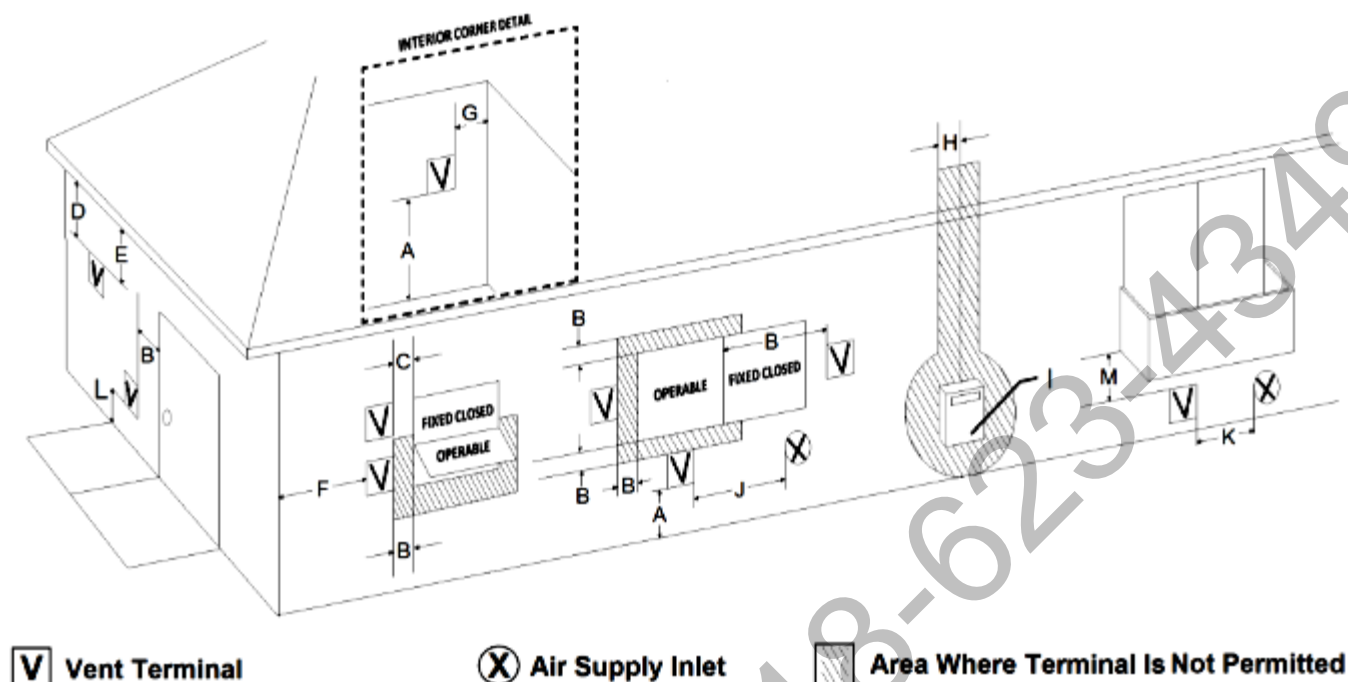

Figure 11 - Acceptable Direct Vent Terminal Vent Cap Locations
- ☛ The termination must fall within the chart in Figure 11.
- ☛ The termination must fall within the area shown in Figures 11 & 12.